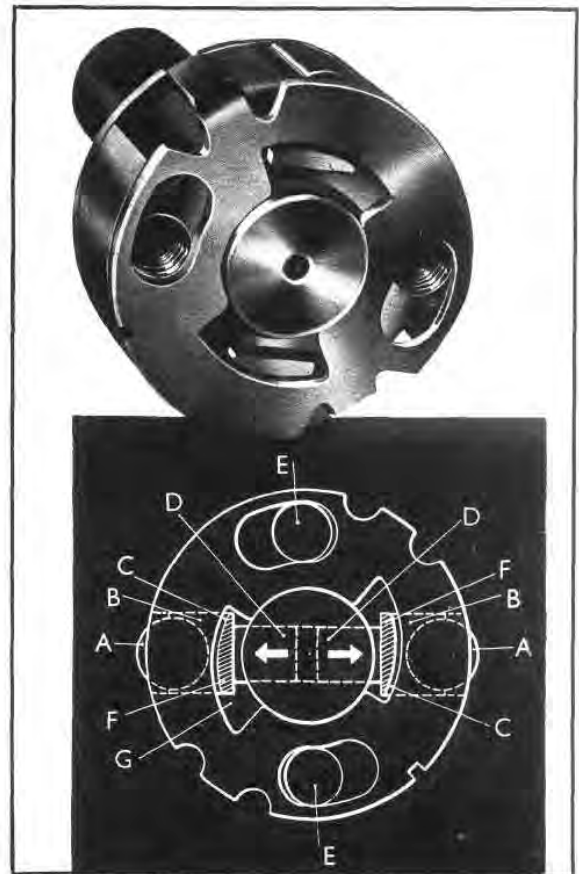

Fig. D12 — Maximum Fuel Adjustment
The cam rollers (A, Fig. D12) are carried in shoes by the incoming fuel. The shoes slide in guides machined in the rotor, and are retained in an endwise sense by top and bottom adjusting plates. "Ears" (F), integral with the roller shoes, project into eccentrically cut slots (G) in both adjusting plates. The "ears" are shaped to match the contour of the slots.
The plungers reach their outward limit of travel when the "ears" on the roller shoes contact the curved sides of the slots in the adjusting plates. In Fig. D12 the adjusting plates are shown in the position which would provide the lowest possible maximum fuel setting. Since the slots in the adjusting plates are eccentric, maximum plunger travel will be increased if